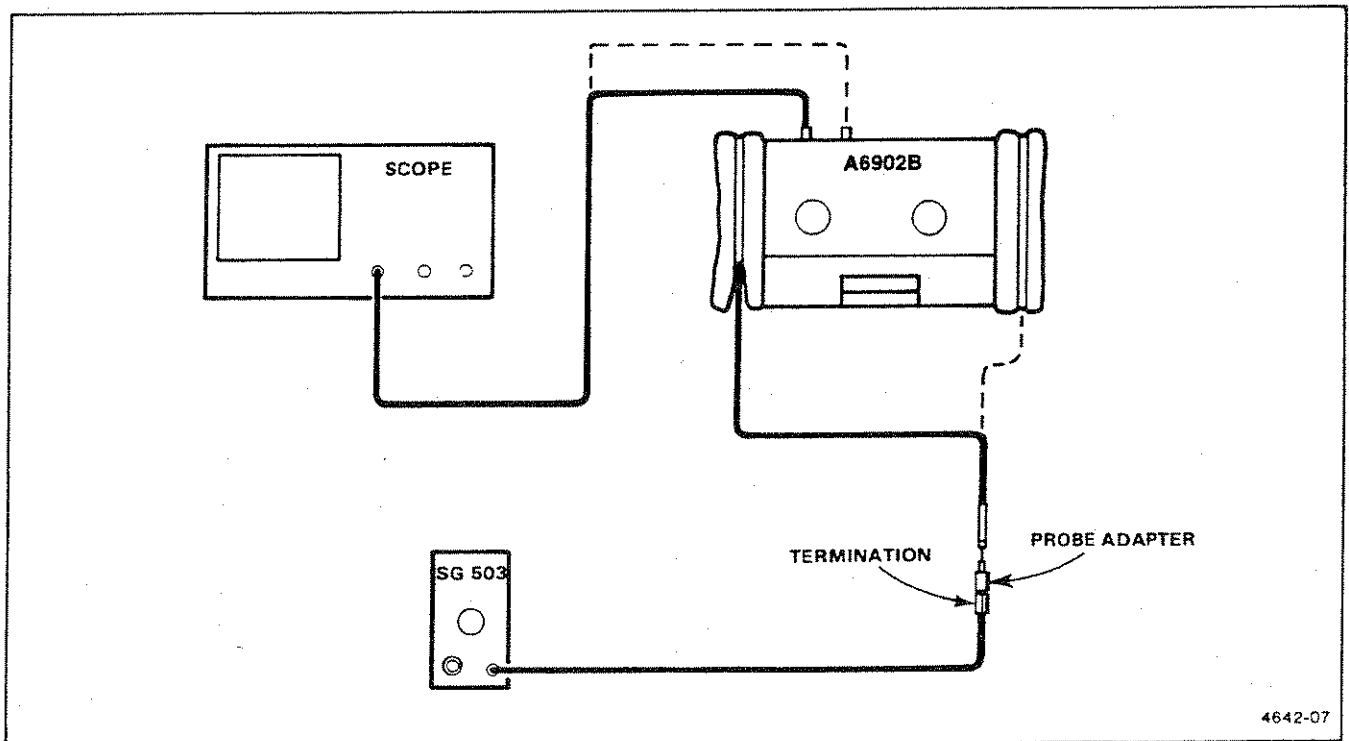

Figure 4-2: Bandpass Check Test Setup
- c. Connect the test setup as shown in figure 4-2. Use the A6902B Channel 1 connectors and the 500 V probes.